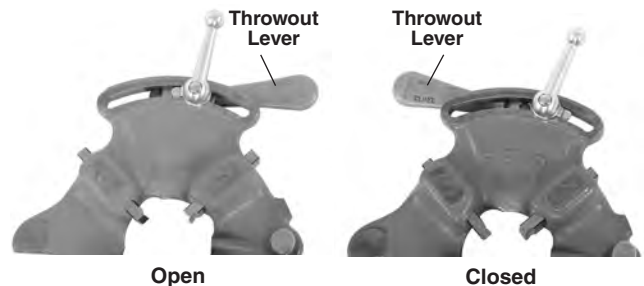

Figure 5 – Open/Closed Lever Position
2. Move throwout lever to OPEN position (Figure 5).